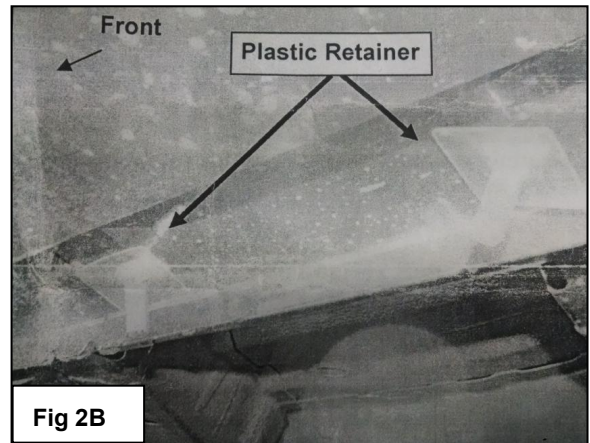

Fig 2B
3	Insert (1) Bolt Plate into the first-forward hole with the plate pointed toward the rear of the vehicle, (Figure 2B) . Thread the Plastic Retainer down tight against the body panel. Repeat to install the next Bolt Plate into the second hole with the Plate pointed toward the front of the vehicle, (Figure 3) . IMPORTANT: The Plates on the (2) Bolt Plates must be pointed toward each other.